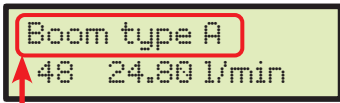

Fig. 61
- First select the type of boom to be set (Fig. 61).
Press **OK** in this screen to confirm the setting of the entire boom type and automatically go back to the type selection (Fig. 61).